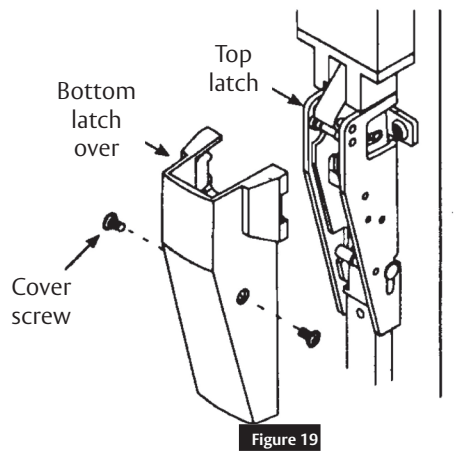

Figure 19
1. Position the top latch cover and secure in the top latch frame. (Figure 19)